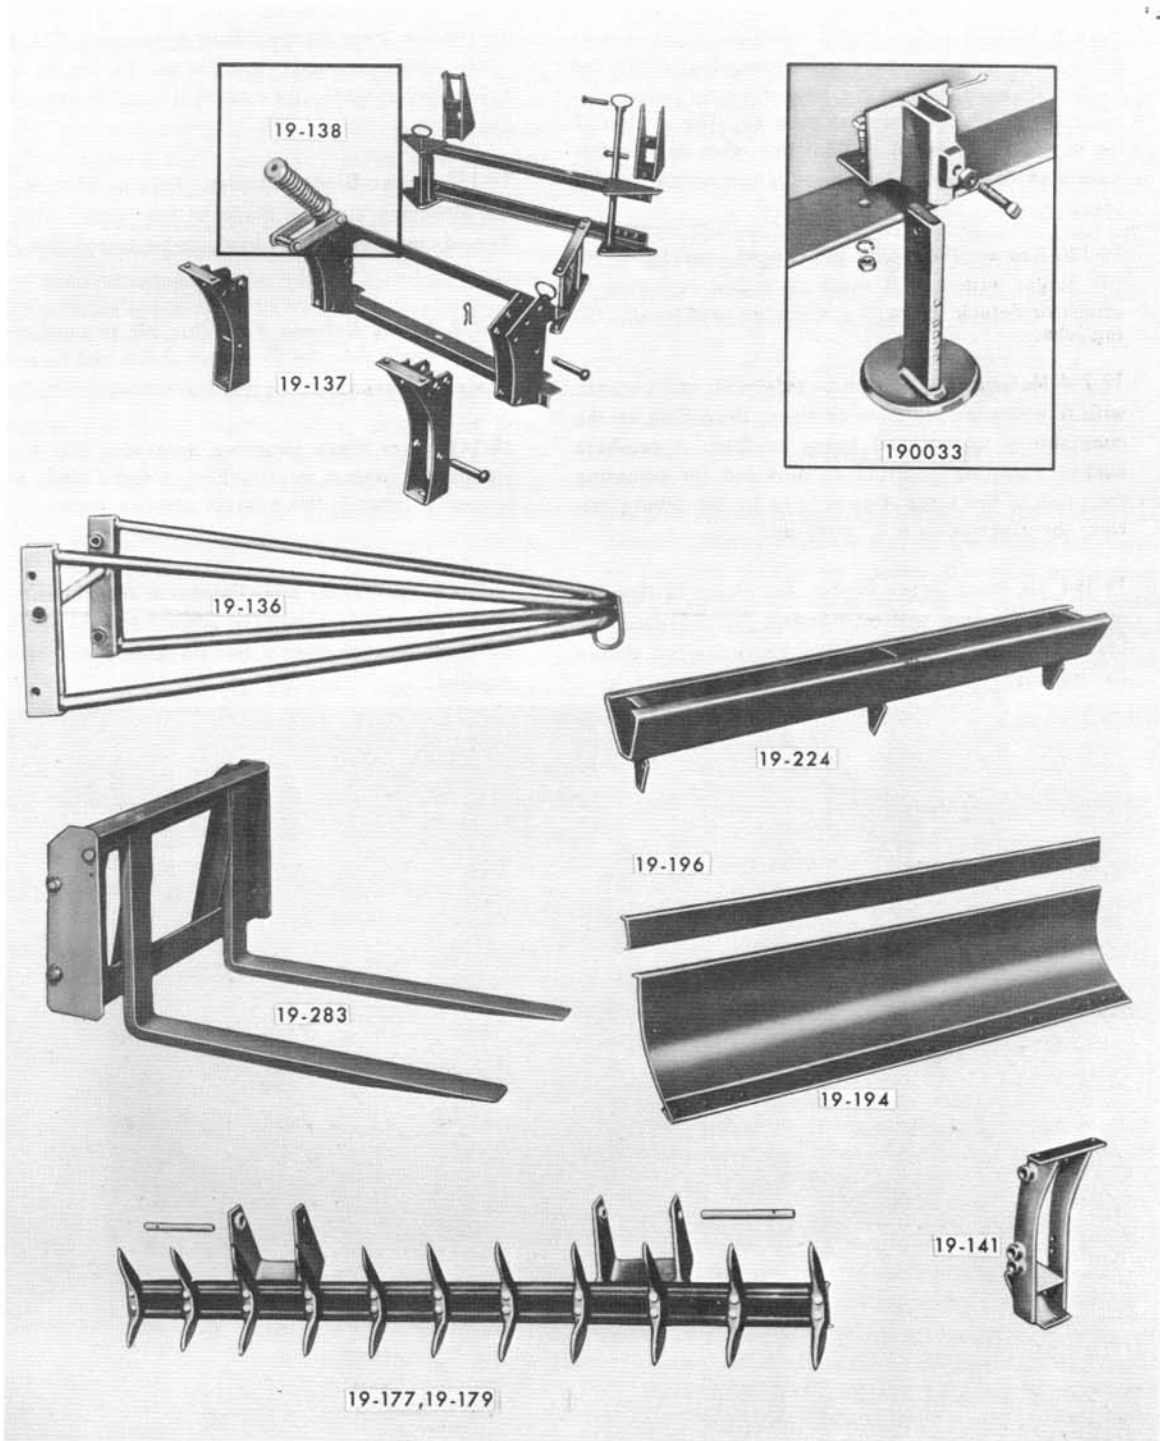

Figure 4
**114541 Bucket Tooth:** The installation of bucket teeth, Figure 4, increases digging action in hard ground. Six or nine teeth may be installed, depending on the size of the bucket.